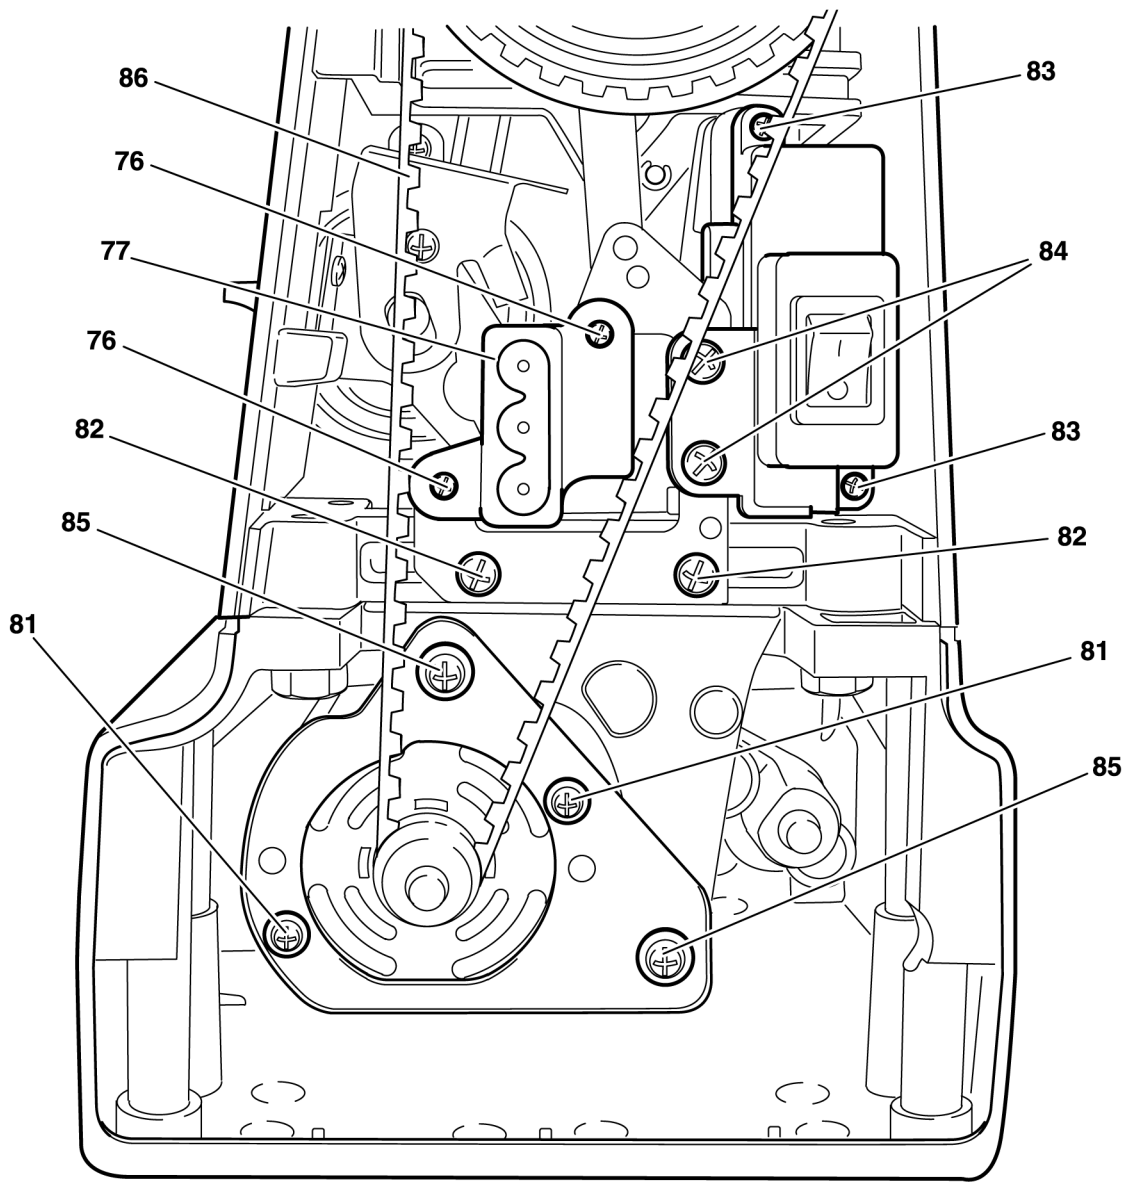

Fig. 28
- Remove toothed belt 86 (fig. 28).
- Turn out both Phillips screws 84 of the main switch (fig. 28).
- Turn out both Phillips screws 81 (fig. 28).
- Fit the motor assembly and fasten it with both Phillips screws 81 (fig. 28).